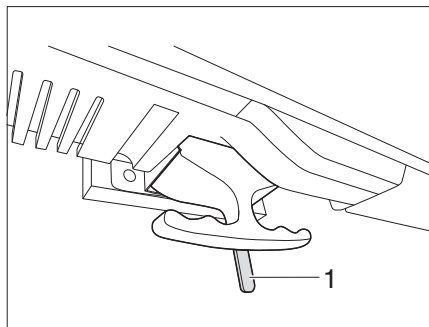

Fig. 128 Flat screen unlocking
- Push the lever (Fig. 128,1) to the left. The lock is released.
- Push the lever (Fig. 128,1) to the middle position. The flat screen is locked.